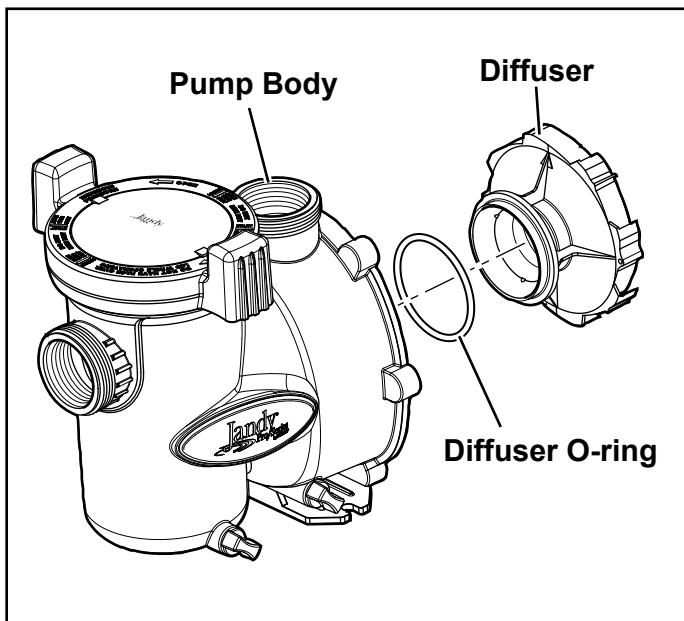

Figure 18. Pump Body and Diffuser Exploded View
6. Replace the two (2) small Phillips-head screws. Tighten the screws to draw the diffuser against the motor backplate.
7. To help prevent an airleak into the system, make sure the diffuser o-ring, o-ring groove, and o-ring seal area are clean and free of debris. If you removed the diffuser o-ring, make sure you install it into the groove you removed it from. (See Figure 18.) If grease is used to retain the o-ring, it ***must*** be silicone based. ***Do not use petroleum-based grease.*** It will destroy the o-ring.
8. Slide the diffuser into the mating hole in the pump body. While supporting the motor, start two (2) screws on opposite sides. (This will hold the motor in position while you start the other six (6) screws.)